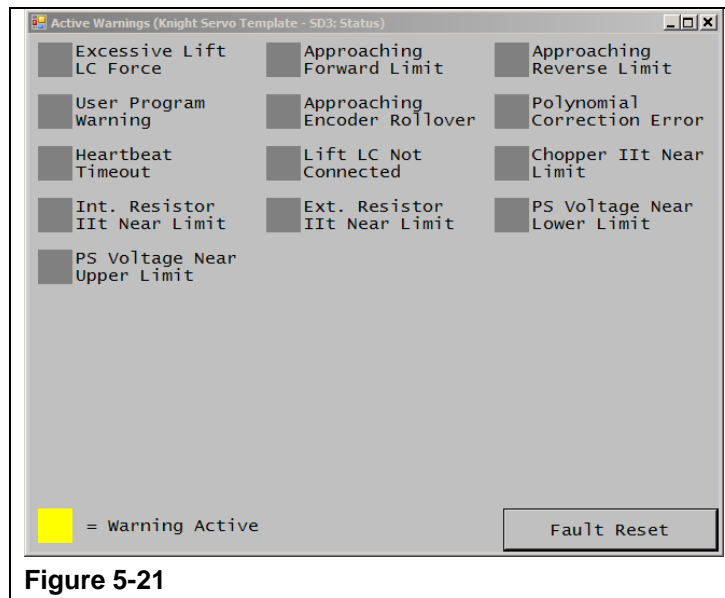

Figure 5-21
- Step 21. Check for any Drive Warnings. A warning will be designated by an illuminated yellow box next to the warning's description on the Active Warnings screen. See Chapter 7.B. for details. (Refer to Figure 5-21)